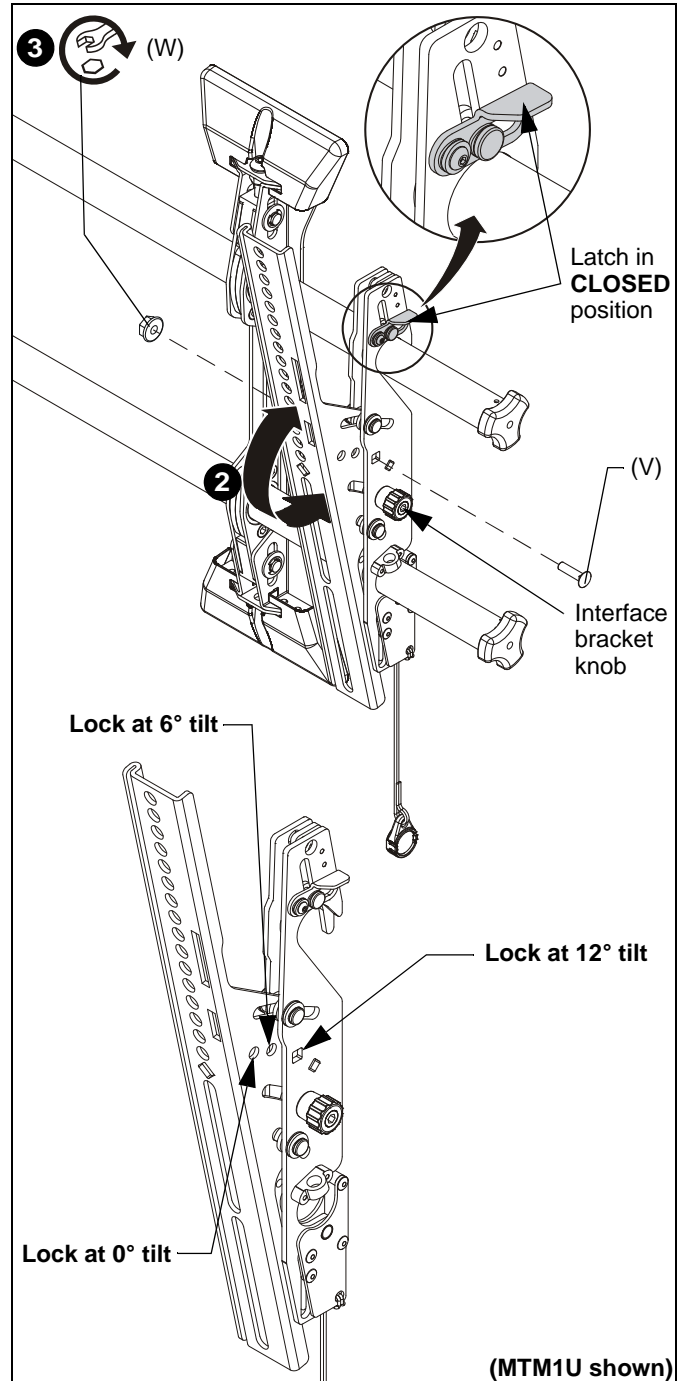

**Figure 13**
1. Turn to right (tighten) to raise side of screen. (See Figure 13)